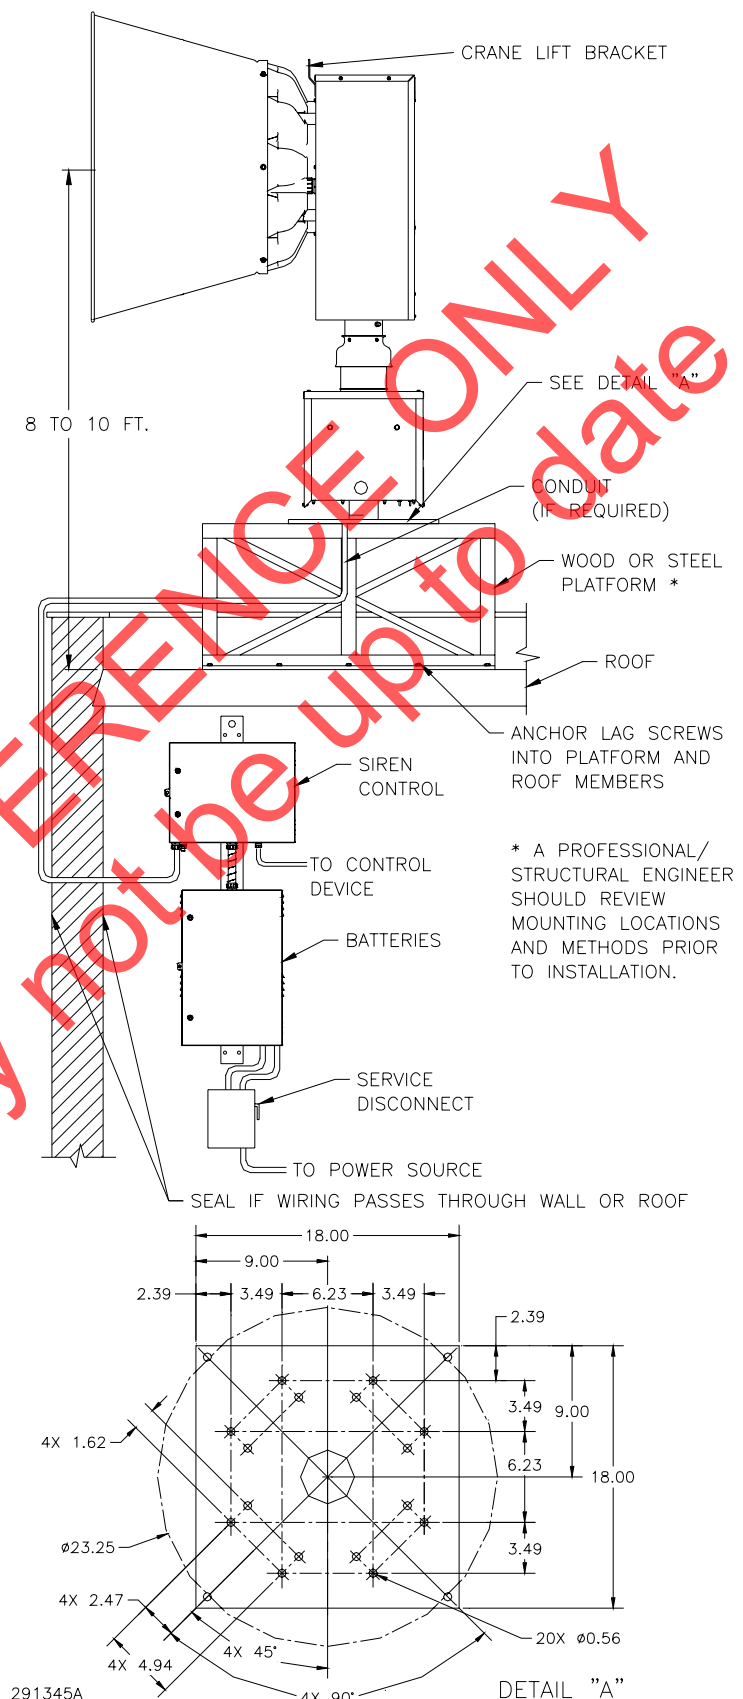
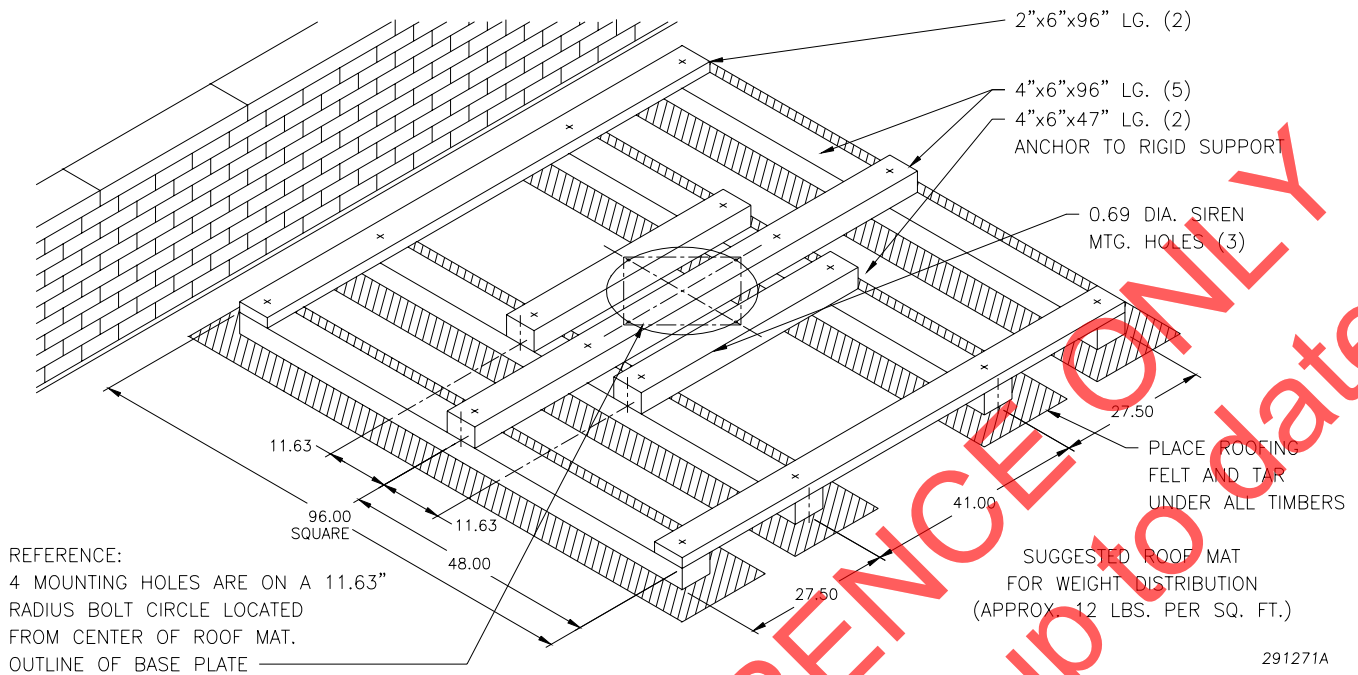

Figure 3-4. Typical Surface-mounted Siren Installation
Figure 3-5. Weight Distribution Mat Construction
This installation configuration is practical when the installation site is on a flat roofed building. The siren can be anchored directly to the roof, on a platform as shown in Figure 3-4, or on a weight distribution mat like the one shown in Figure 3-5.
This mat is required when the siren mounting surface is unable to support over 176 pounds per square foot (859kg per square meter). The mat shown in Figure 3-4
3. Anchor the siren to the mounting surface with 1/2" lag bolts or nuts and bolts, as appropriate through the mounting holes (one in each corner) in the siren base plate (see Figure 3-4, detail A). If the siren is mounted directly on a roof, (without a platform or weight distribution mat) be sure to install waterproof joints at the points where the mounting bolts pass through the roof so that water does not enter the building.